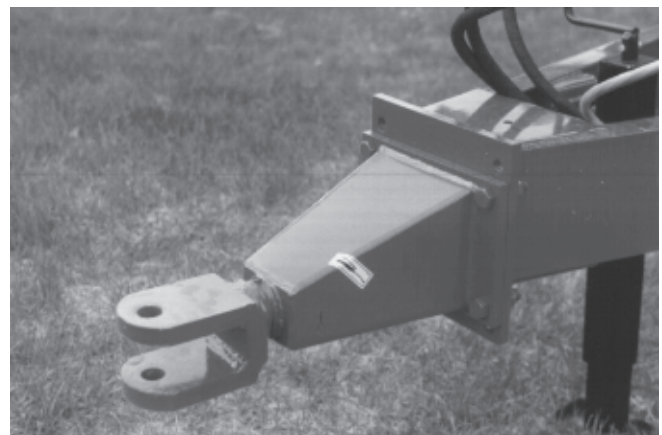

Figure 15
- 1) Adjust the swivel hitch assembly to keep the machine parallel with the ground. Two sets of bolt holes are provided (Figure 15) to keep the machine level in operation.